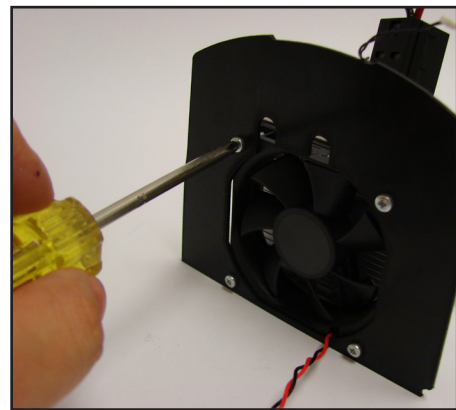

Figure 11-14
8. To remove the fan, use a Philips screwdriver to remove the fan screws to release the fan (Refer to Figure 11-14 ).